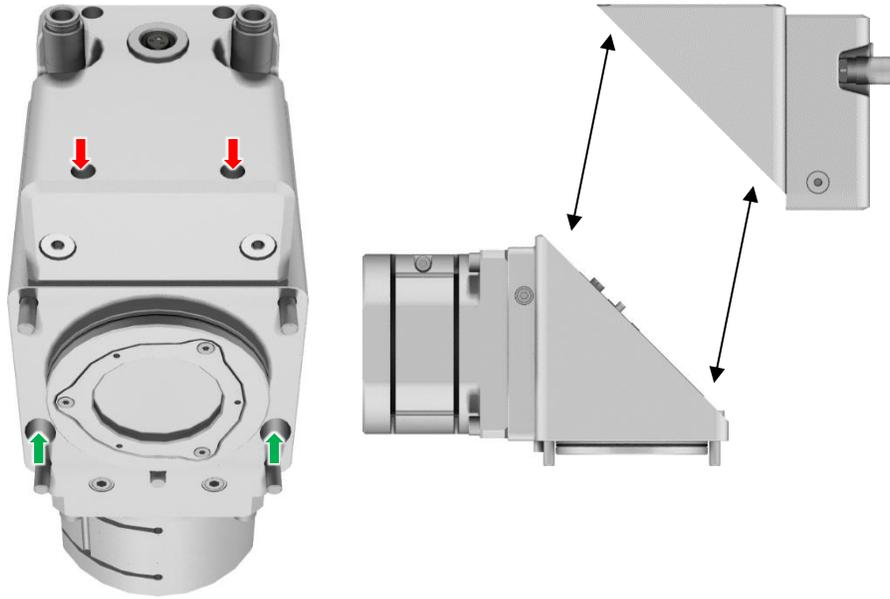

Figure 8: Disassembling the LIA
- a. Remove the 2 lower screws at the LIA's thermopile; see Figure 8 on page 45, **red** arrows.
- b. The LIA block will come apart along its diagonal. Hold both parts securely while removing the transversal screws which are located at the bottom of the LIA; see Figure 8 on page 45, **green** arrows.